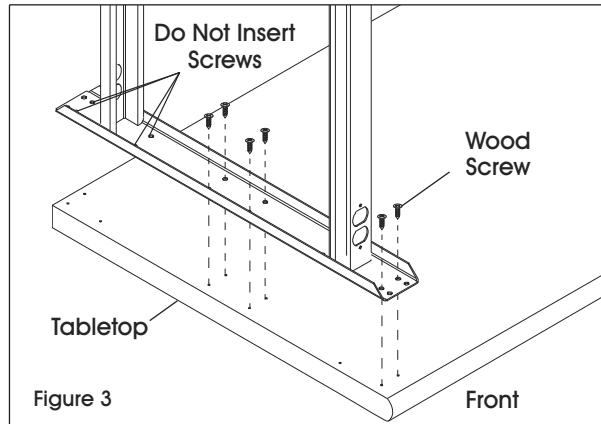
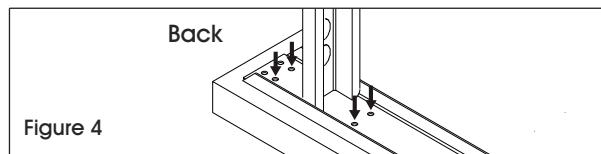

Figure 3
Figure 4
1. Using six wood screws, attach leg to underside of tabletop (5) through pre-drilled pilot holes. Only insert screws into the front and center pre-drilled pilot holes. Holes in the back should not be used at this time. (See Figure 3)
2. Using a 1/4" drill bit, drill four holes all the way through tabletop in the pre-drilled pilot hole locations shown in Figure 3. They should line up with the holes in the back of the leg. (See Figure 4)